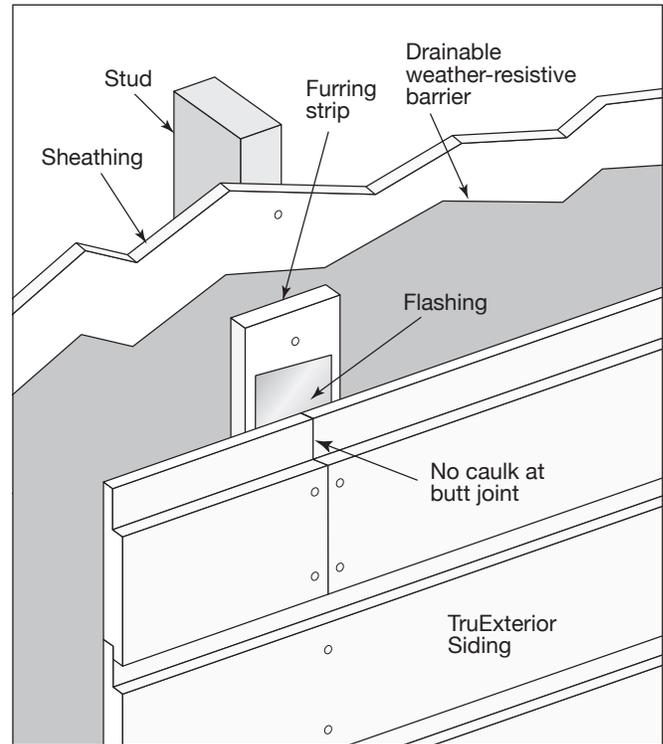

Fig. 43
- For 4", 6", and 8" profiles, 2 fasteners must be used through the face of the siding at each furring strip (**Fig. 43**)